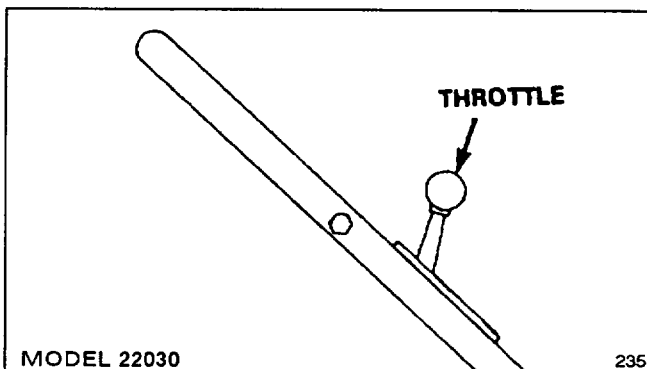

Figure 9
3. **STARTING (Model 22030)**—Move throttle to CHOKE. Pull fingertip starter out slowly until positive engagement results; then pull vigorously to start the engine. Regulate throttle as desired when engine starts (Fig. 9).